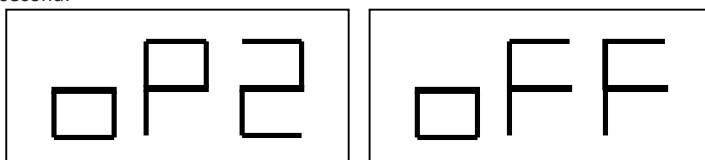

**Fig. F7.1 Enabling the memory of operator 2. The memory of operator 1 is stored.**
1. When the machine is free, press [F+P6]  to select operator 2. The LED located next to the button lights on to indicate that operator 2 is enabled. The message shown in figure F7.1 will be displayed for one second.